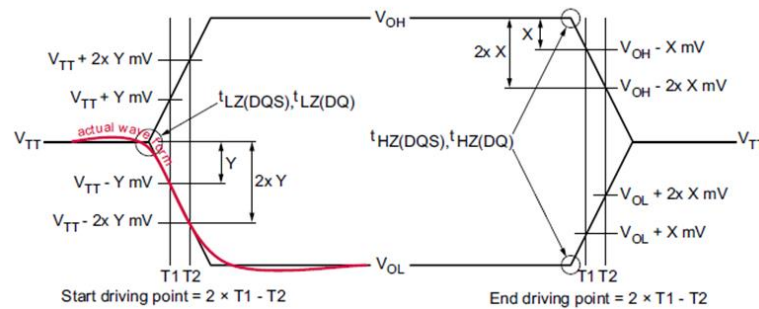

Figure 34 — tLZ and tHZ Method for Calculating Transition and Endpoints
9. For LOW-to-HIGH and HIGH-to-LOW transitions, the timing reference is at the point when the signal crosses the transition threshold (VTT). tHZ and tLZ transitions occur in the same access time (with respect to clock) as valid data transitions. These parameters are not referenced to a specific voltage level but to the time when the device output is no longer driving (for tRPST, tHZ(DQS) and tHZ(DQ)), or begins driving (for tRPRE, tLZ(DQS), tLZ(DQ)). Figure 34 shows a method to calculate the point when device is no longer driving tHZ(DQS) and tHZ(DQ), or begins driving tLZ(DQS), tLZ(DQ) by measuring the signal at two different voltages. The actual voltage measurement points are not critical as long as the calculation is consistent.